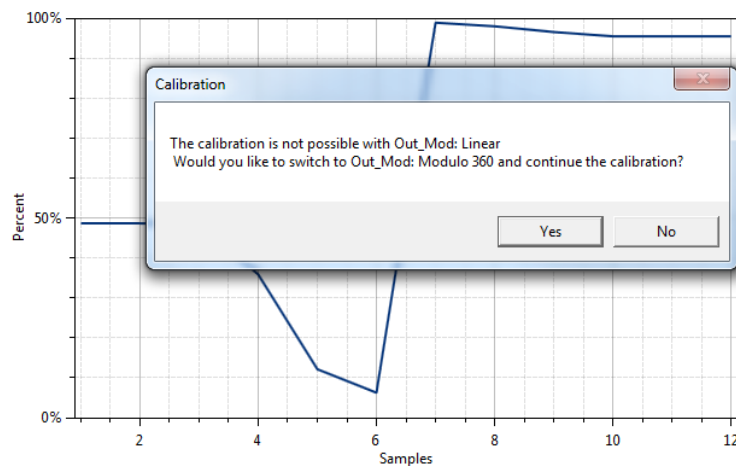
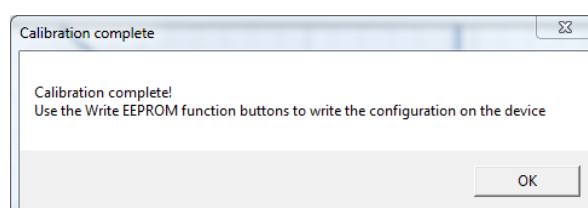

Figure 31. Request for Changing the Out_Mod Setting
Figure 32. Successful Calibration Message
3. Based on the acquired data, the GUI will attempt to calculate the best values for the *Slope*, *Offset*, and *Clamps* registers. If the calibration is not possible with the currently selected “Out MOD” setting, the GUI will ask the user to change to the other setting (see Figure 31). The calculated values will be prepared to be written to the memory, and the user will be directed to use the “Write EEPROM” button in the “I/O FUNCTIONS” section to write the new coefficients to the memory of the device. See Figure 32.